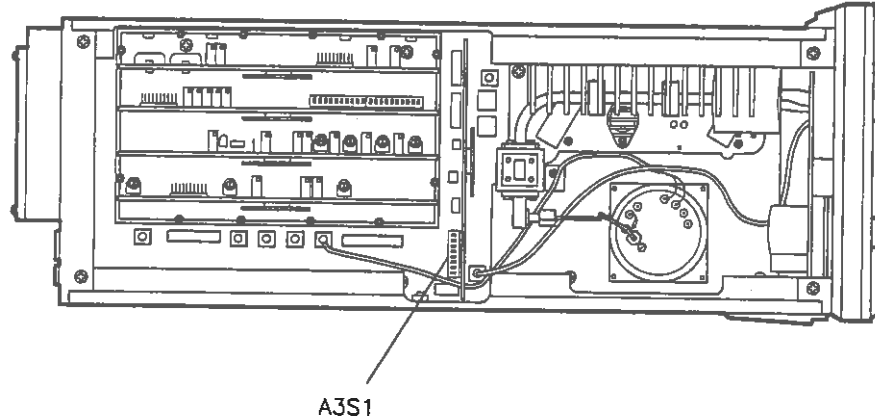

Figure 5-1. Configuration Switch A3S1 Location
2. Set configuration switch A3S1 (figure 5-1) for the desired operating mode.